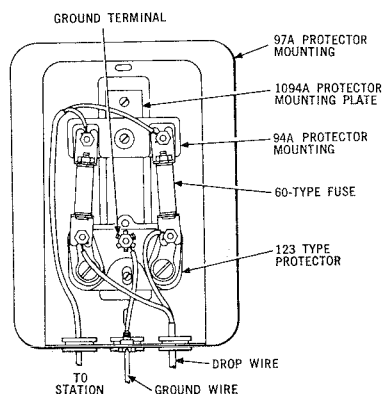

Fig. 17 — Fuseless Protector and 60-Type Fuses
4.31 60 type fuses and 94A Protector Mountings must be mounted on an incombustible surface. Use 97A Protector Mounting (Fig. 17) if surface is combustible.
4.32 The 94A Protector Mounting consists of a porcelain base equipped with clips for mounting two No. 60-type fuses (sneak current fuses). When specified, they may be mounted with 123A1A protectors. Two 60-type fuses are placed between the protector and 94A protector mounting. Mount 123A1A Protector with code inverted (Fig. 17).